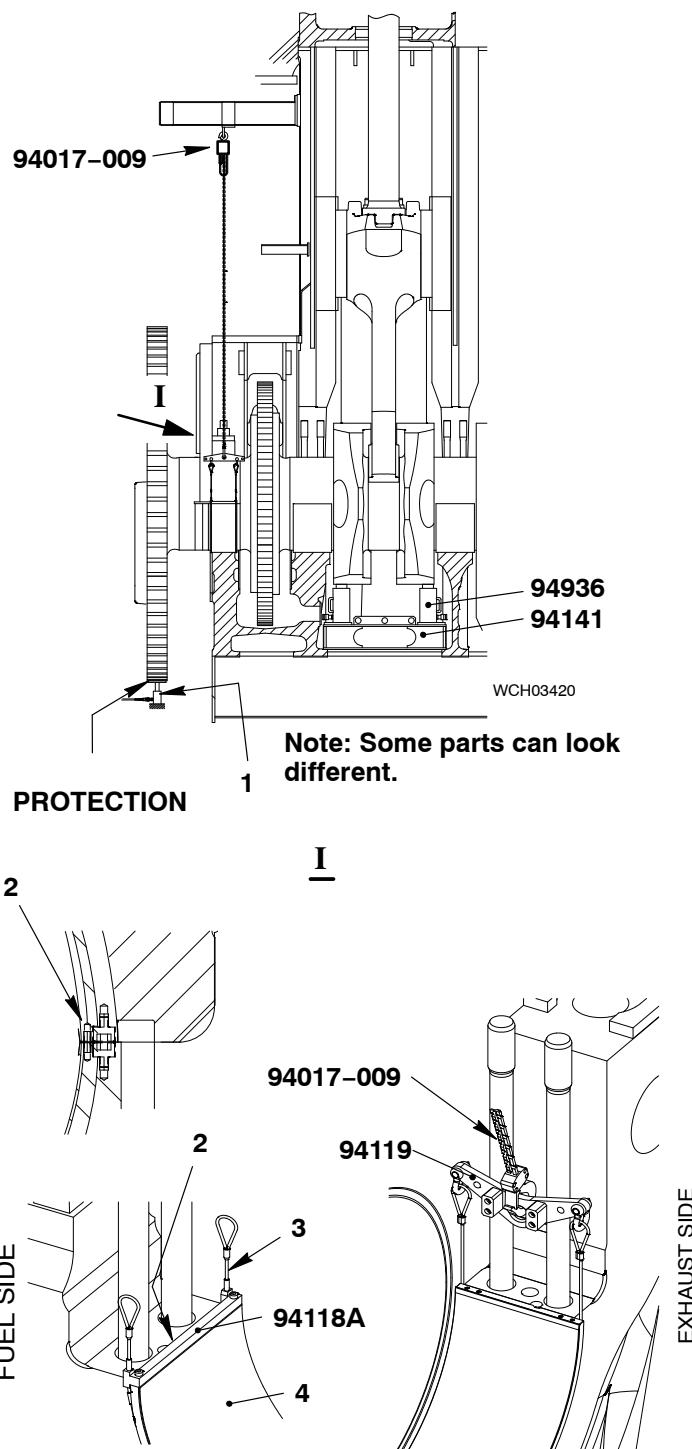

Fig. 12
- Attach the spur-gearied chain block (94017-009, Fig. 12) to the eye bolt on the bottom of the platform.
- Remove the Allen screws (2) from the bearing girder.
- Attach the dismantling tool (94118A) to the bottom main bearing shell (4).
- Put the ropes (4) along the outer edges of the main bearing shell (3) to the other side and attach them to the lifting plate (94119) as shown.
Note: If the bearing shell (1) does not move, the lifting plate (94119, Fig. 12) must be attached to the other side of the dismantling tool (94118A). The bearing shell must be moved back to its initial condition and the removal procedure done again.